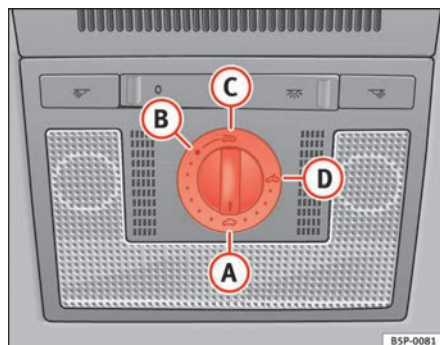

Fig. 69 Roof lining
- Turn the rotary button to position **A** ⇒ page 109, fig. 69 ⇒ ⚠.